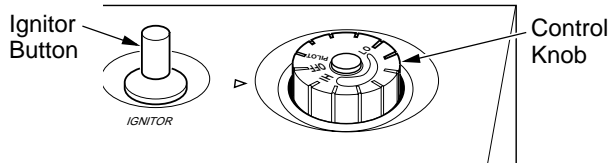

Figure 22 - Control Knob In The OFF Position, Models VP16T, VN18T, VP26T, & VN30T
3. Turn thermostat control knob clockwise to the OFF position (see Figure 22 or 23 for your model).
5. Turn thermostat control knob counterclockwise to the PILOT position. Press in thermostat control knob for 5 seconds (see Figure 22 or 23 for your model).